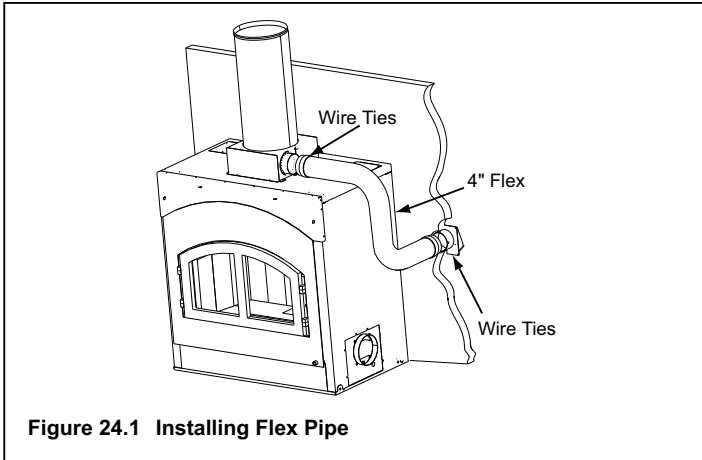

Figure 24.1 Installing Flex Pipe
2. Seal around the cap and flex with caulk to stop air from getting in to the chase (See Figure 24.1 on page 24).